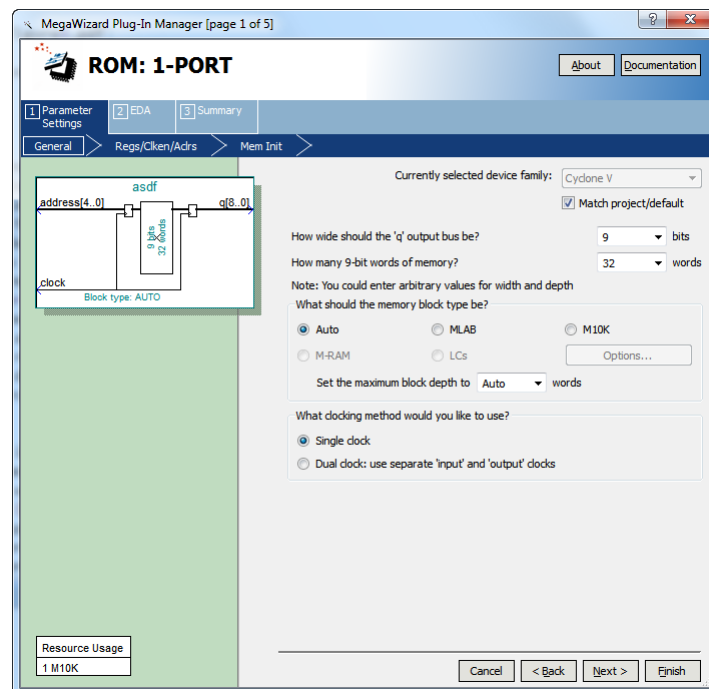
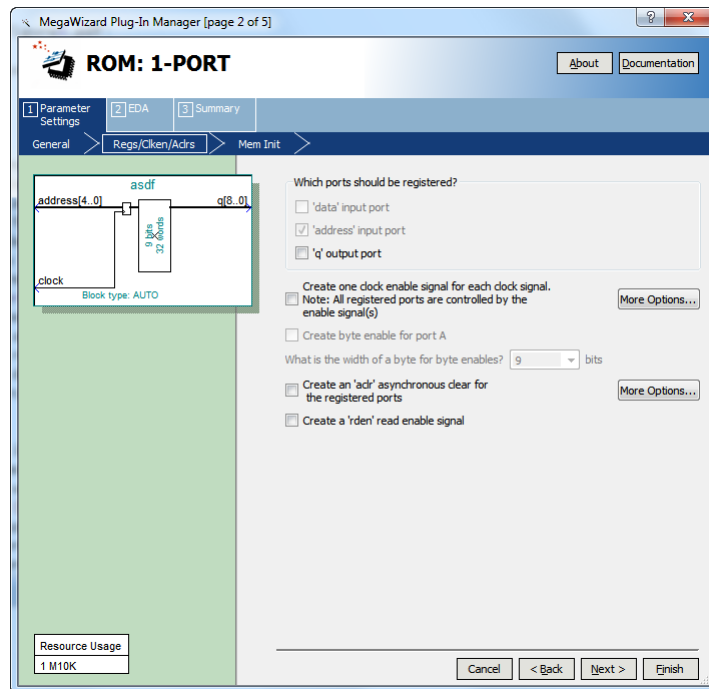

Figure 5: Specifying memory size.
Figure 6: Specifying which memory ports are registered.
2. Generate a top-level Verilog file that instantiates the processor, memory, and counter. Use the Quartus II IP Catalog tool to create the memory module, following the procedure that is provided in Laboratory Exercise 8. The correct module is found under the *Basic Functions > On Chip Memory* category and is called *ROM: 1-PORT*. Follow the instructions provided by the wizard to create a memory that has one 9-bit wide read data port and is 32 words deep. Figure 5 and Figure 6 show the relevant pages of the wizard